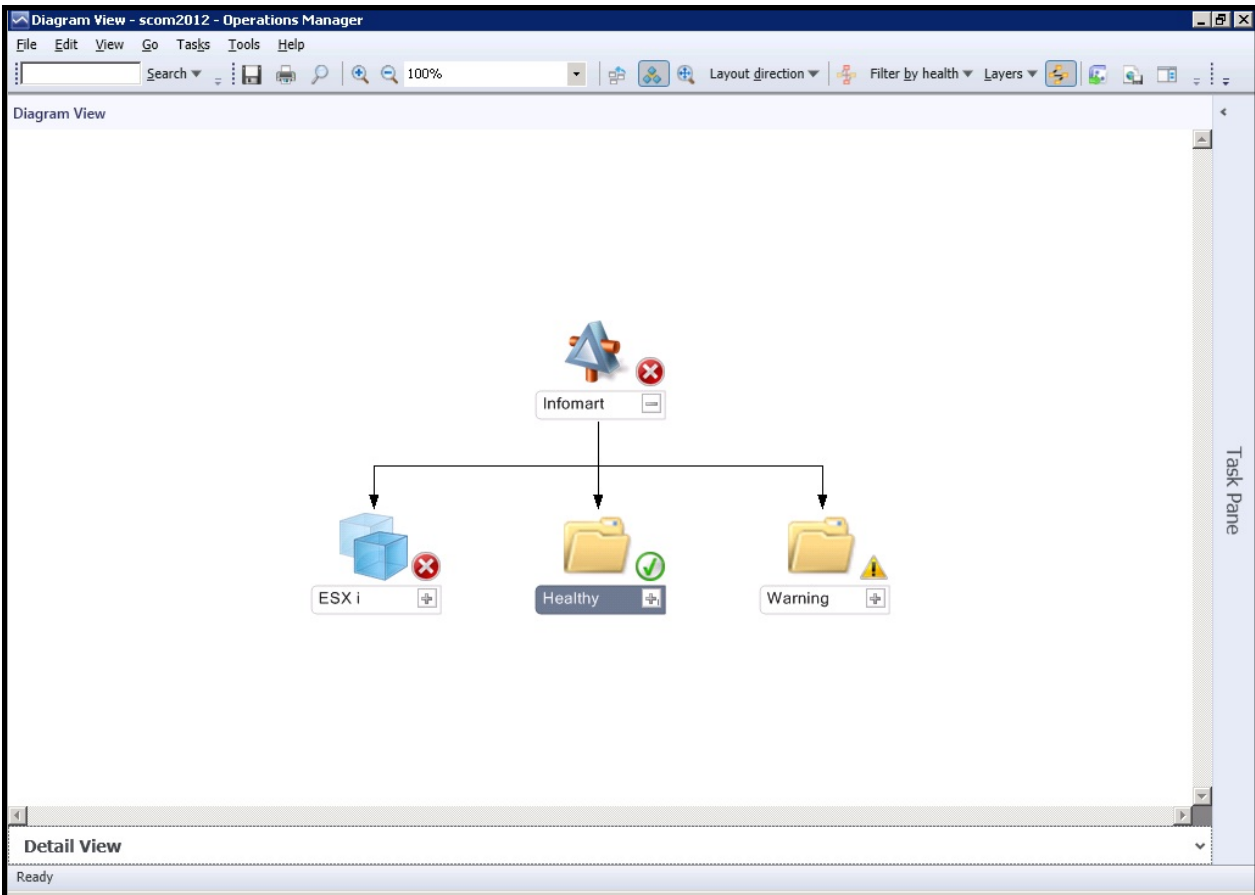
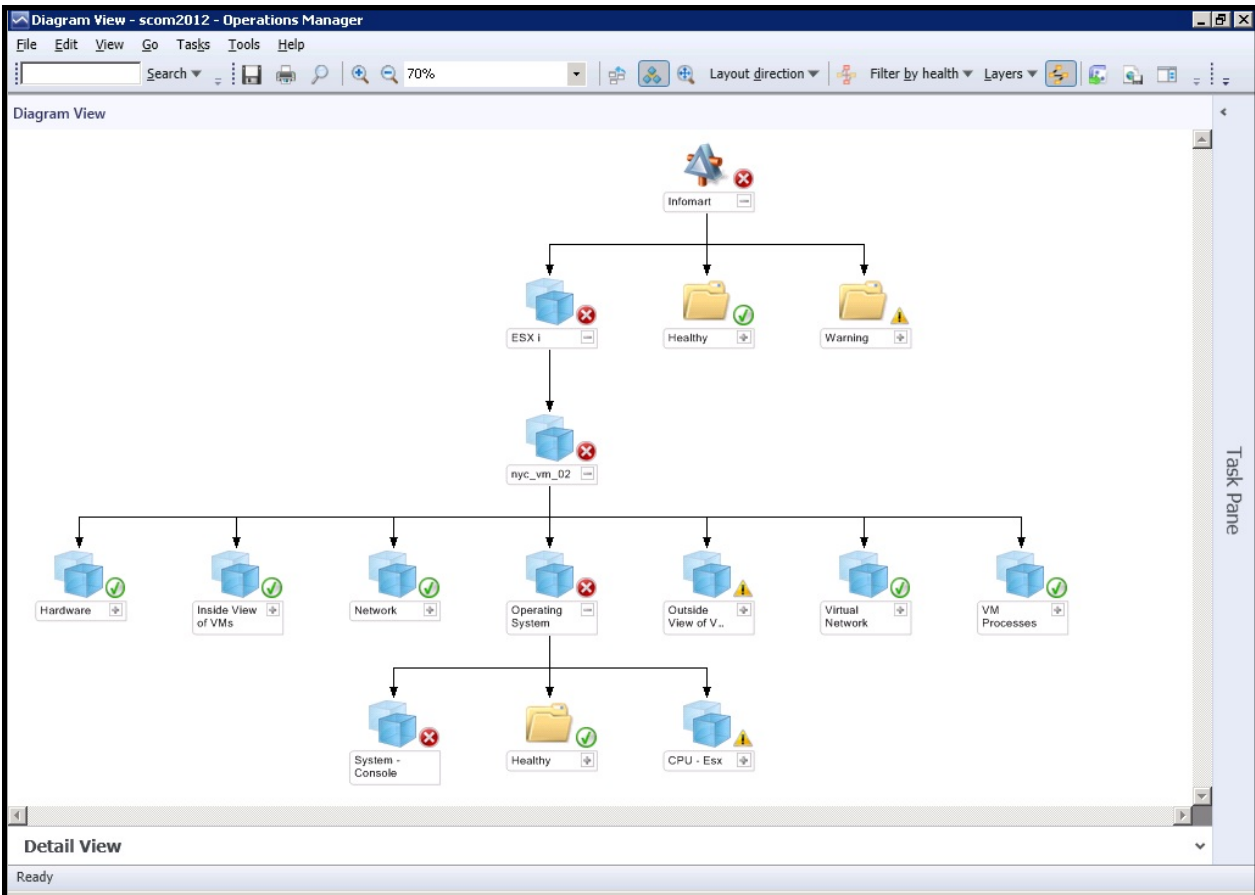

Figure 4.40: The abridged distributed application topology indicating the component in the Critical state
Figure 4.41: Drilling down from the ESXi component to know which eG test reported the Critical problem
15. Figure 4.40 will then appear, displaying an “abridged” topology of the *Infomart* application; this topology indicates that while a single component is in the **Critical** state, some components are in the **Healthy** state and some others in the **Warning** state. From Figure 4.40, we can easily infer that the **ESXi** component is in the **Critical** state and is hence responsible for the dip in the performance of the *Infomart* application. Could this **Critical** issue have caused some components to be in the **Warning** state? Only detailed investigation can confirm that. To begin with however, let us focus on the **Critical** issue with the **ESXi** component.
16. From the topology map of Figure 4.40, you can drill down further to discover where in the **ESXi** component's architecture the **Critical** issue occurred and which eG test caused it. To drill down, click on the **+** button adjacent to **ESXi** in Figure 4.40. This will reveal the name of the problematic **ESXi** component, which is *nyc_vm_02* in the case of our example (see Figure 4.41). Clicking on the **+** button next to *nyc_vm_02* will lead you to the layer in which the problem occurred – this is the **Operating System** layer in our example. By drilling one level down, you can determine the exact test that reported the problem – this is the **System – Console** test in the case of our example. It is now apparent that the **Critical** anomaly occurred in the service **console** of the *nyc_vm_02* component. From Figure 4.41, it is also clear that the **Critical** problem with the **System-Console** test has rippled and affected the performance of the **CPU-Esx** test, forcing SCOM to signal the problem with that test as a **Warning**. To know the exact measures that captured these abnormalities, you have to use SCOM's Health Explorer. Refer to Section 3.6 of this document to know how to use the Health Explorer.